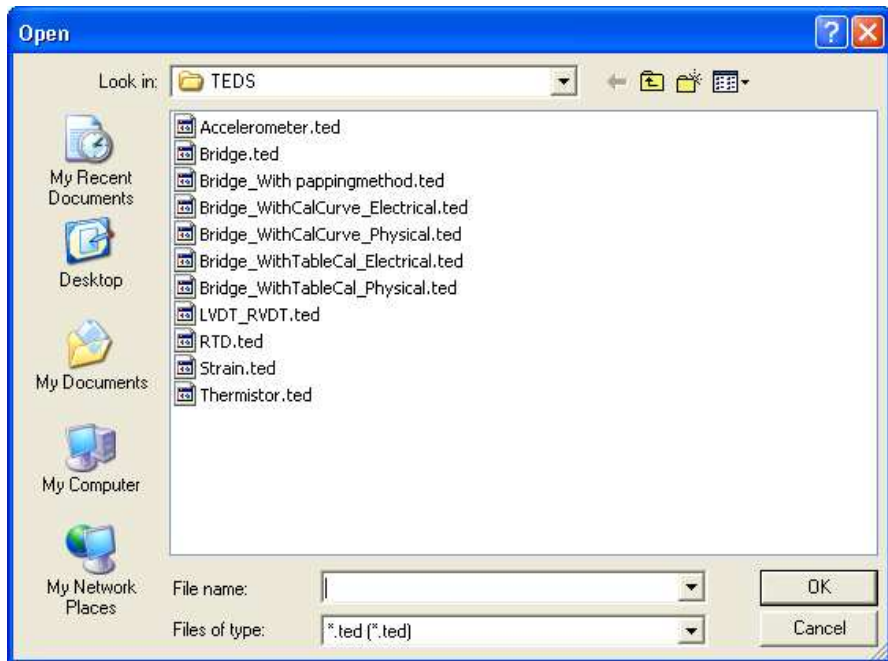

Figure 1-7. Virtual TEDS Directory
2. The virtual TEDS directory opens as shown in Figure 1-7.